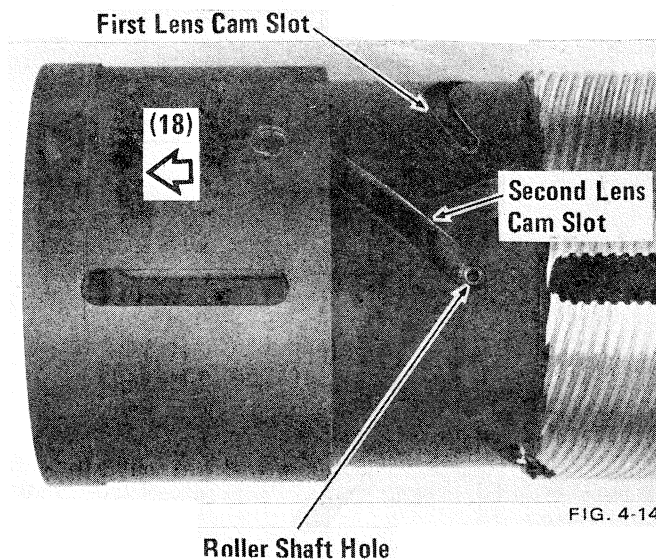

FIG. 4-14
- b) Slide 1st lens group slide housing (29) off inner helicoid as shown in Fig. 4-14.
- f) Install 2nd lens roller shaft (39) and roller (38) through slot in 1st lens slide housing and into roller shaft hole in 2nd lens slide housing. Fig. 4-14 and 4-13.